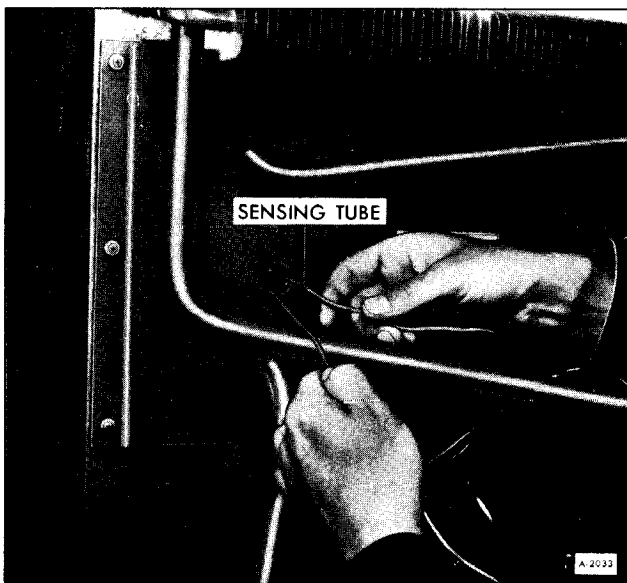

Figure 8—Removing Thermostat Sensing Element
3. At back of refrigerator remove cork plug which seals hole where sensing tube comes through, and pull tube through hole (figure 8).